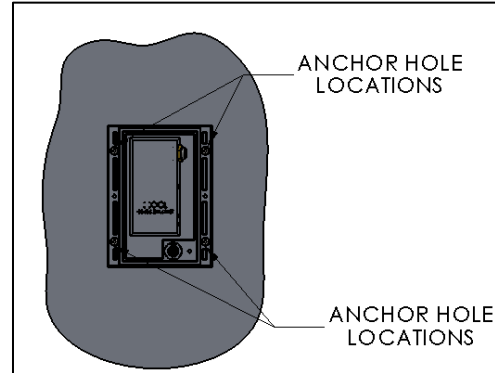

FIG. 6- ANCHOR HOLES
3. Use the BACK PLATE as a template and drill holes for anchors (by other).as shown in FIG 6.